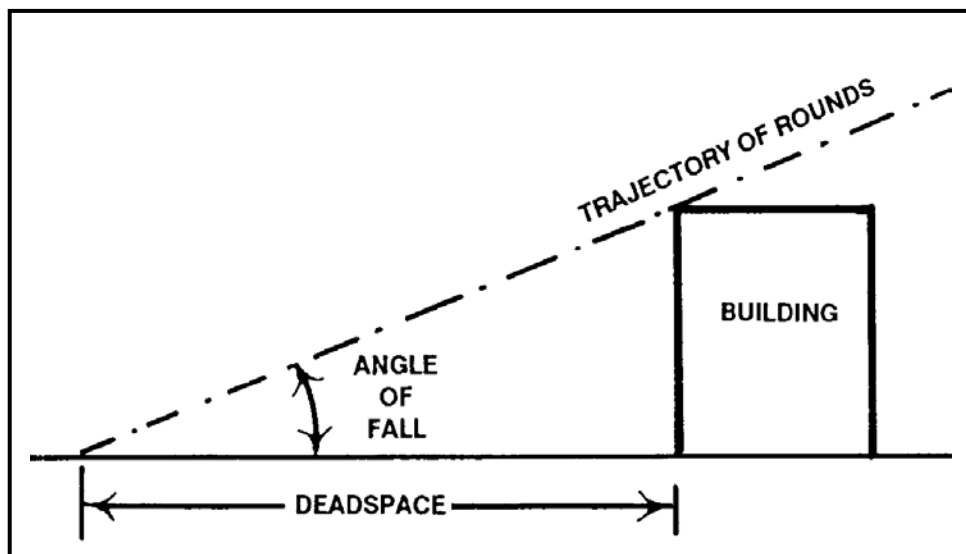

Figure 7-18. Indirect-fire dead space (low angle).
(1) Weapons of at least 155-mm are necessary against thick reinforced concrete, stone, or brick walls. Even with heavy artillery, large expenditures of ammunition are required to knock down buildings of any size. Tall buildings also create areas of indirect-fire dead space due to a combination of building height and angle of fall of the projectile (Figure 7-18). Usually the dead space for low-angle indirect fire is about five times the height of the highest building over which the rounds must pass.